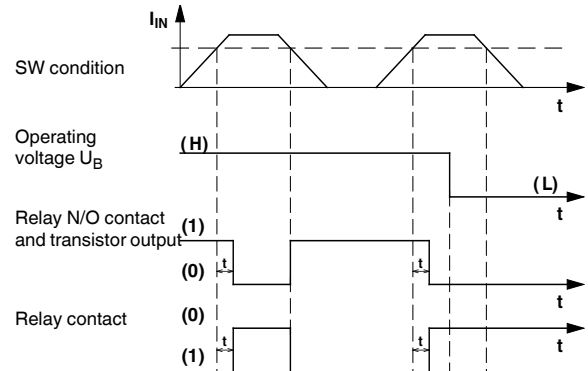

Figure 6 Function diagram: Closed circuit current-controlled when above threshold value
- For Figure 6: Turn the threshold value potentiometer until the yellow "SW" LED goes out.